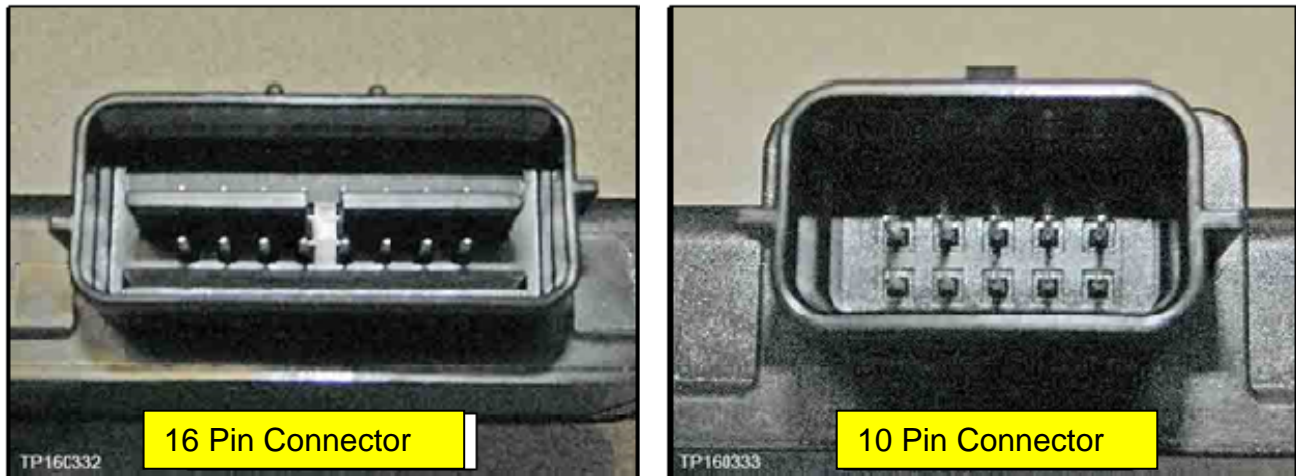

Figure 19
- (1) Refer to the electronic parts catalog (FAST) and look up the OCS ECU assembly part number by VIN.
- (2) Confirm that the number of pins of the new part are the same as the original OCS Control Unit (See Figure 19).